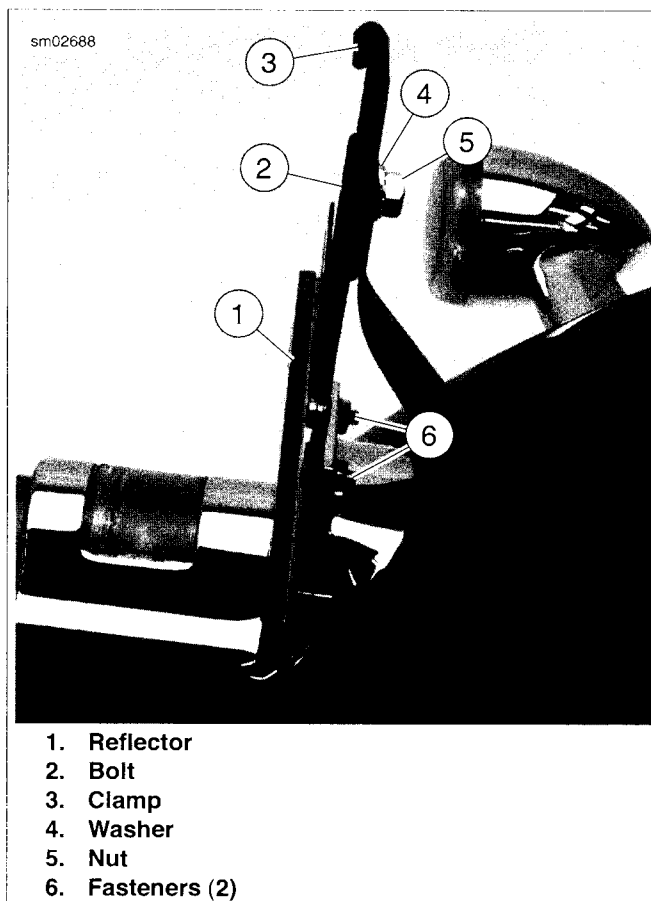
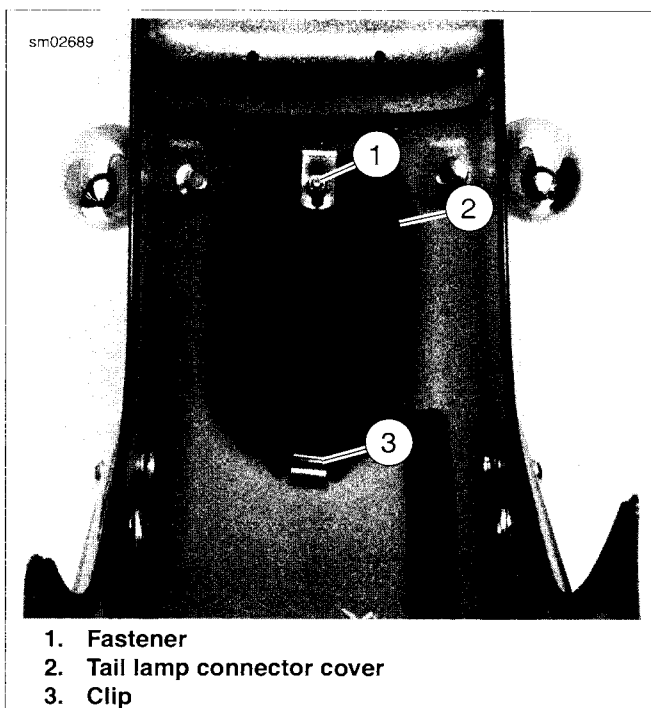

Figure 7-35. License Plate Bracket
Figure 7-36. Tail Lamp Connector Cover
2. See Figure 7-35. Remove reflector (1). Remove license plate bracket fasteners (6).
3. Remove bolt (2), washer (4) and nut (5) securing clamp to license plate bracket.
4. See Figure 7-36. Remove fastener (1). Disengage tail lamp connector cover (2) from clip (3).
14. Figure 7-36. Slide tail lamp connector cover (2) into clip (3). Install fastener (1) and tighten to 8-30 **in-lbs** (0.9-3.4 Nm).
15. See Figure 7-35. Place license plate bracket in place on tail lamp. Install but do not tighten license plate bracket fasteners (6). Install clamp (3). Install bolt (2), washer (4) and nut (5).